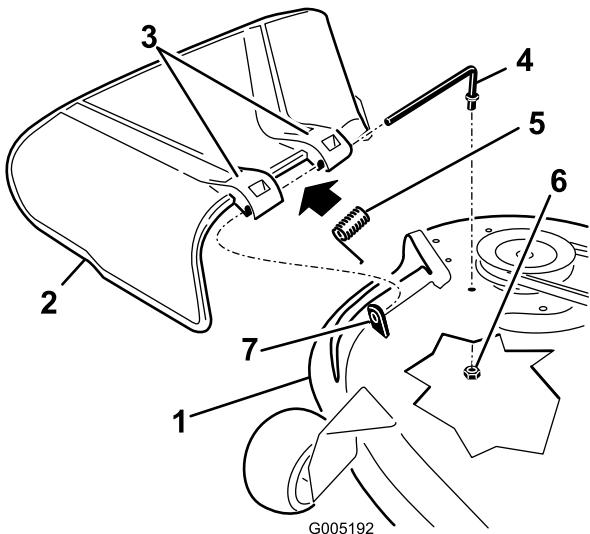

Figure 58
1. Remove the nut (3/8 inch) from the rod under the mower (Figure 58).
2. Slide the rod out of the short standoff, the spring, and the grass deflector (Figure 58).
4. Replace the grass deflector (Figure 58).
7. Slide rod through the second grass-deflector bracket (Figure 58).
9. Secure the rear end of the rod into the mower with a nut (3/8 inch) as shown in Figure 58.